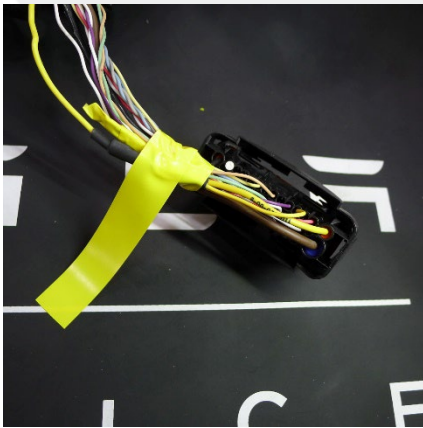
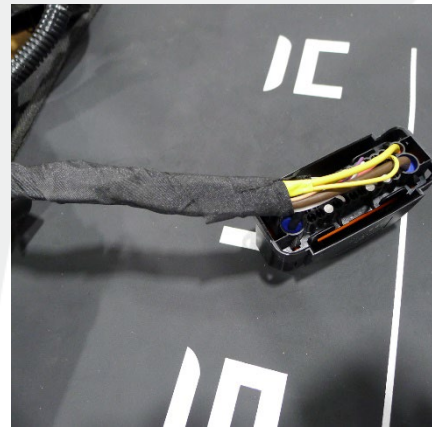

Figure 23
Figure 24
21. Bundle the excess jumper wire neatly into the electrical harness with yellow tape (Figure 23), and then wrap the harness with anti-abrasion tape (Figure 24).